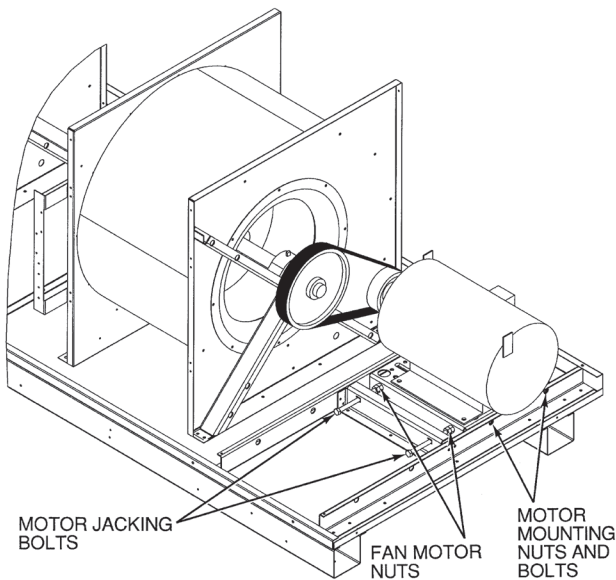

Fig. 48 — Belt Tension Adjustment
2. Loosen motor mounting nuts and bolts. See Fig. 48.